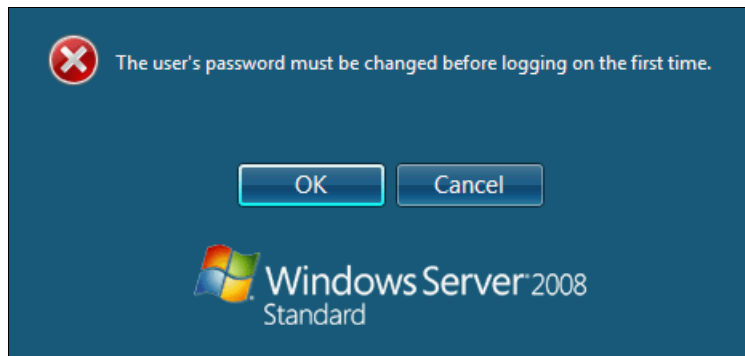

Figure 9-114 Password prompt after installing Windows
20. When Windows is done installing and you are prompted to enter a password (Figure 9-114), click **OK**, and then enter your password.